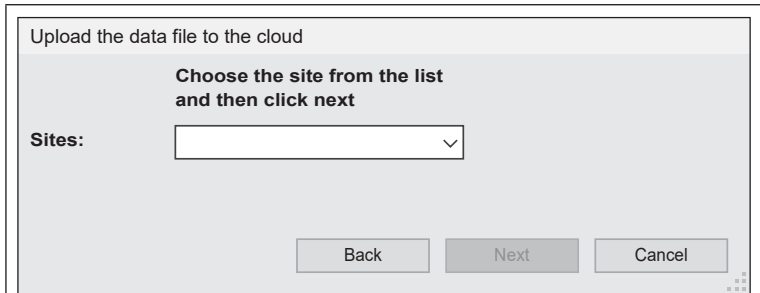

Fig. 106
3. Enter the **email** and **password** login details that were created for the **SMS Wizard PRO App**, then click on the **'NEXT'** button. The sites drop down list prompt window will appear, **Fig.106**.